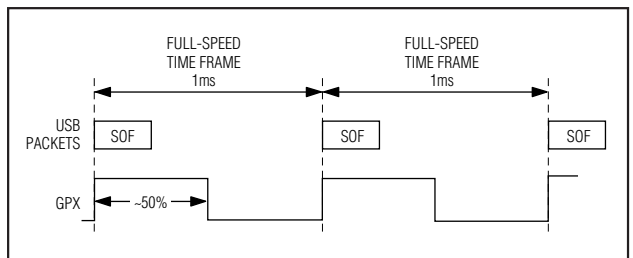

Figure 14. GPX Output in SOF Mode
- **SOF:** A square wave with a positive edge that indicates the USB start-of-frame (Figure 14).